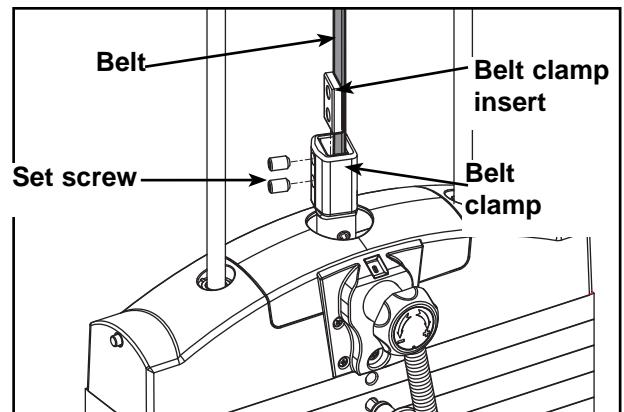

Figure 9
- E.** Pull belt tight and secure belt to clamp with the two set screws. **NOTE:** Torque set screws 300-350in./lbs. See Figure 9.